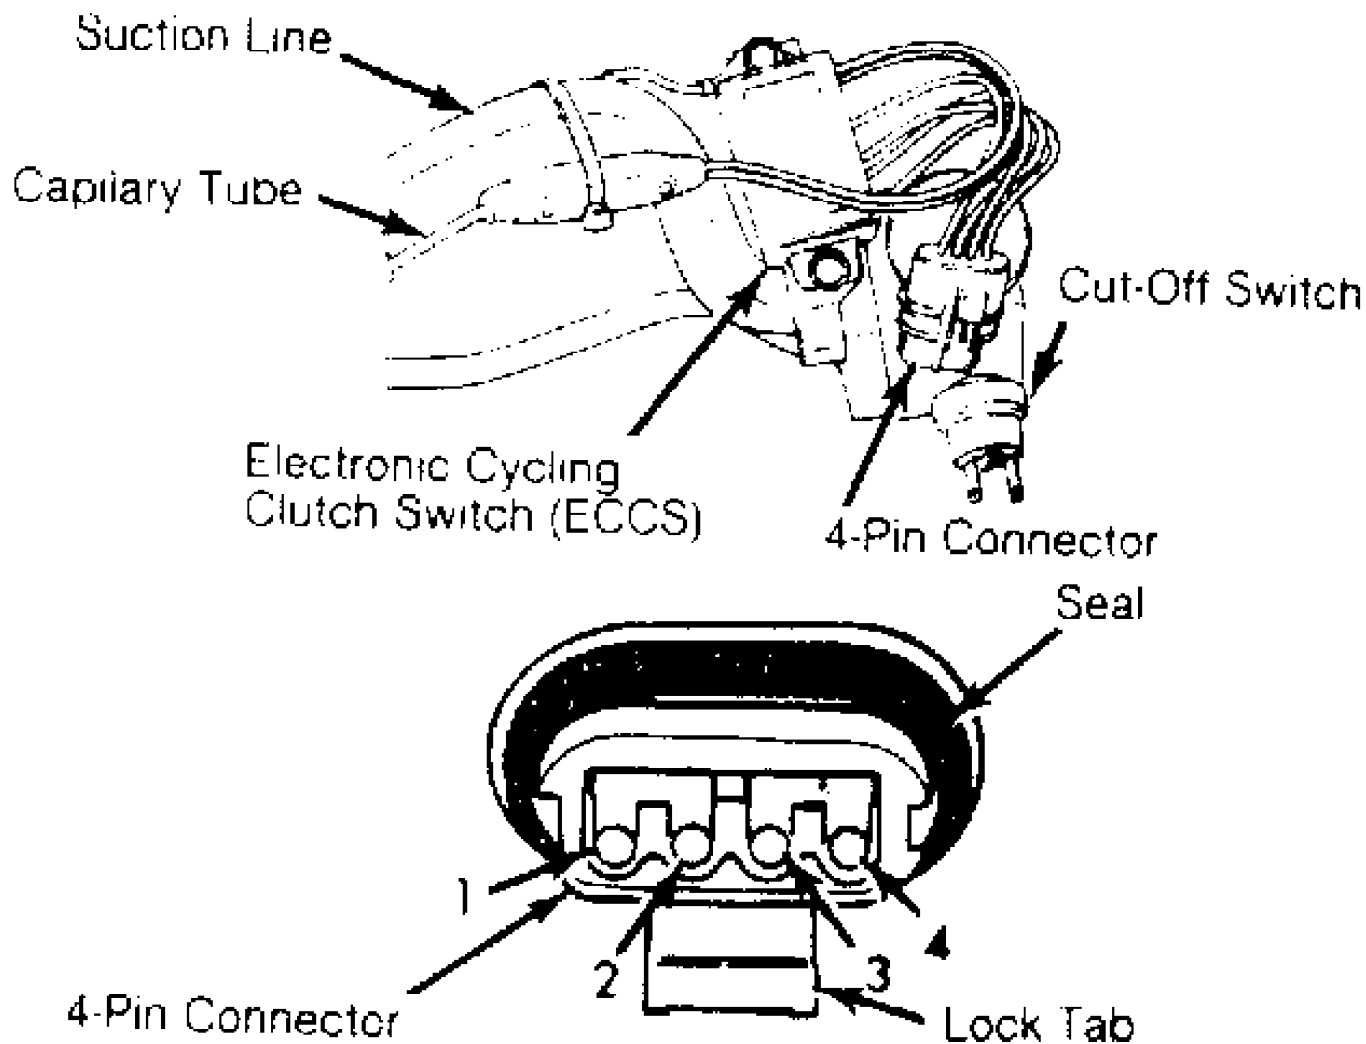

Fig. 1: Electronic Cycling Clutch Switch Connector
1) With ambient temperature of test area around 70°F (21°C), supply 12 volts to pin No. 2 and ground pin No. 4 of the Electronic Cycling Clutch Switch (ECCS). See Fig. 1.